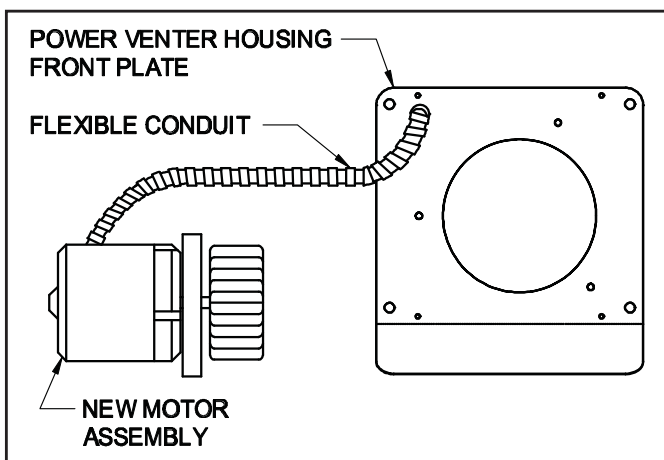

Figure 14
1. Insert the blower wheel through the hole in the front plate of the power venter housing. (See Figure 14)